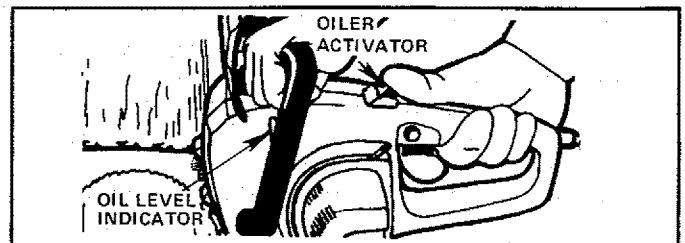

Figure 10
- Check the oil level indicator frequently during use. Locate the indicator in the saw frame just below and behind the front handle. Figure 10. If oil is not visible in the slot when saw is upright on a level surface, the tank requires filling.
- Operate the oiler by pressing down on the oiler activator with your right thumb. Figure 10.
- Operate the manual oiler by pressing down on the oiler activator with your right thumb. Figure 10.